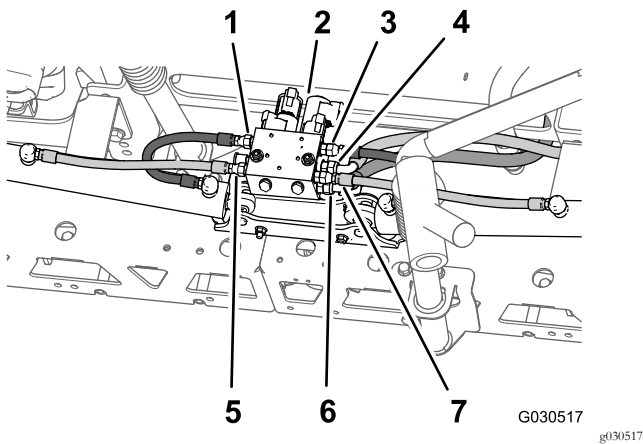

Figure 62
- At the back of the machine, remove the hydraulic hoses from between the boom-lift manifold and the hydraulic cylinder (Figure 62).